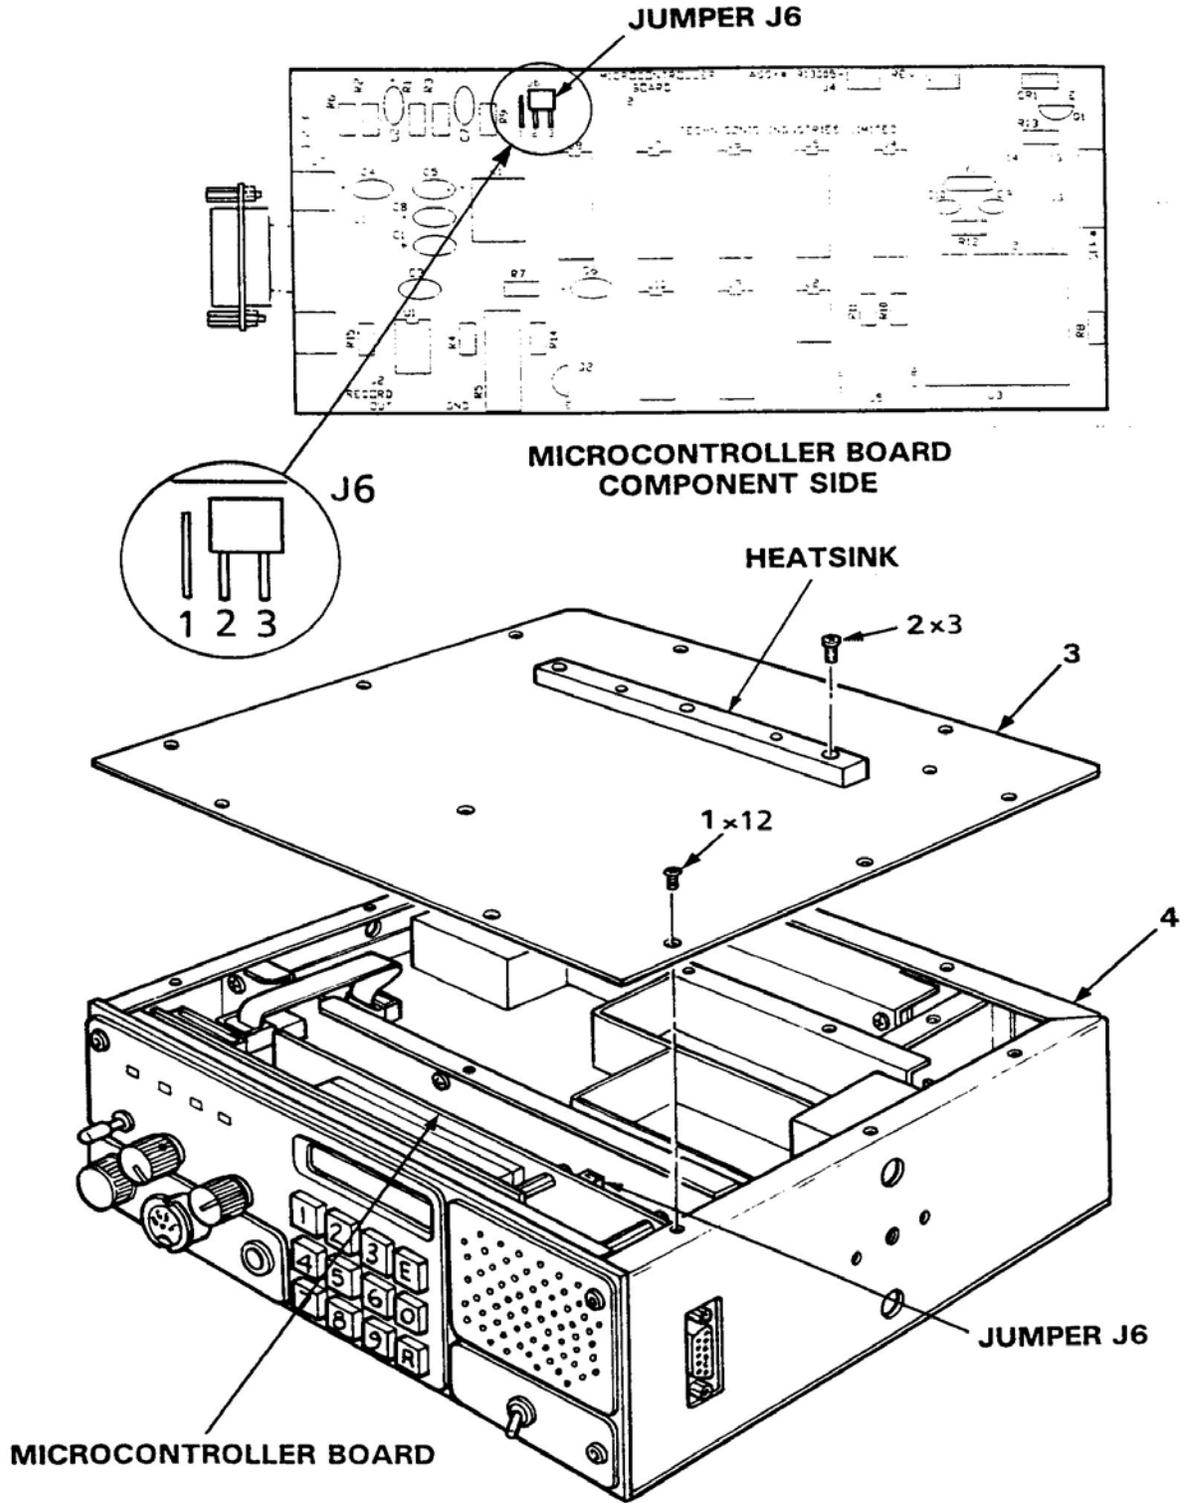

Figure 2.2 Fixed Channel Jumper Locations
Remove Cover Assembly as described in paragraph 2.1.1. Refer to Figure 2.2 for location of items indicated below.
- (1) Remove and retain 12 flathead screws (1) and 3 Panhead screws (2) securing transceiver top cover (3) to chassis (4). Refer to Figure 2.2.
- (2) Position Jumper J6 on pin 1 and pin 2 to disable keyboard entry of frequency selection and lock operating configuration.
- (3) Position Jumper J6 on pin 2 and pin 3 to enable keypad frequency selection and unlock operating configuration.
- (4) Position Transceiver Cover (3) on Chassis (4). Ensure that cover holes are aligned with threaded inserts.
- (5) Position 12 flathead screws (1) and 3 Panhead screws (2) through cover (3) holes into chassis (4) threaded inserts. Tighten screws with fingers.
- (6) Tighten screws securing Transceiver Cover (3) to Chassis (4).